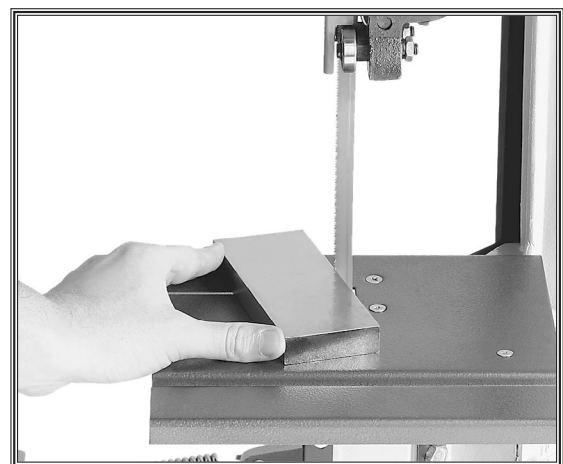

Figure 22. Proper bandsaw vertical starting position.
- Always keep your fingers away from the blade and always hold the workpiece securely in your hand (**Figure 22**).